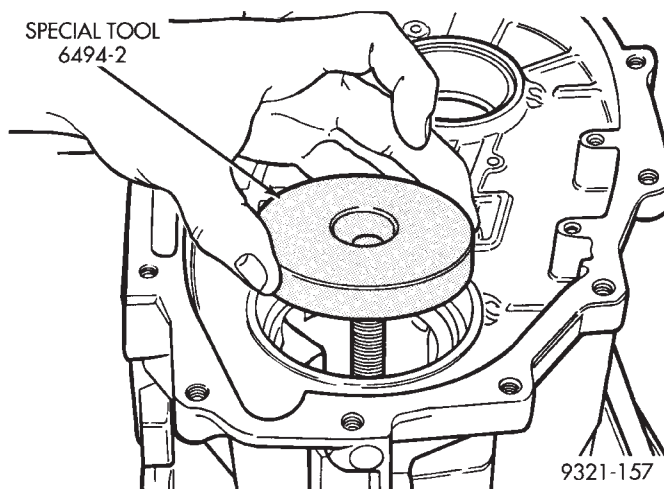

Fig. 304 Disc Installation
(5) Install centering disc (special tool 6494-2) onto gauge disc rod (Fig. 304).